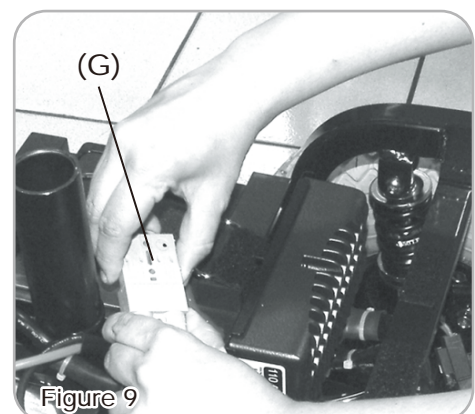

Figure 9
Batteries are removable by detaching the Battery Power Plugs (G). (See Fig. 9)